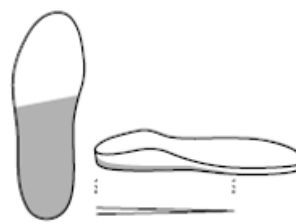
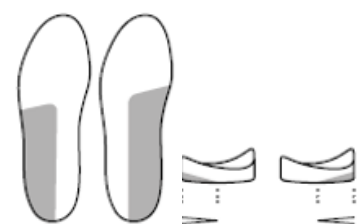

Fig. 1: Heel raise up
Fig. 2: Inner or outer edge elevation
- After the material has cooled, the construction material can be ground on the grinding machine into a heel wedge (Fig. 1) or an inner or outer edge elevation (Fig. 2). The material should taper off to 0 mm at the front at the metatarsal head (Fig. 2).